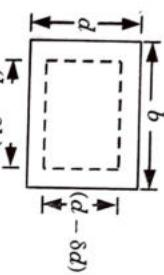

Fig. 1.3.2.
- Let a rectangular bar of length,  $L$ , breadth,  $b$  and depth,  $d$  is subjected to an axial tensile load,  $P$  as shown in Fig. 1.3.2. The length of the bar will increase while the breadth and depth will decrease.